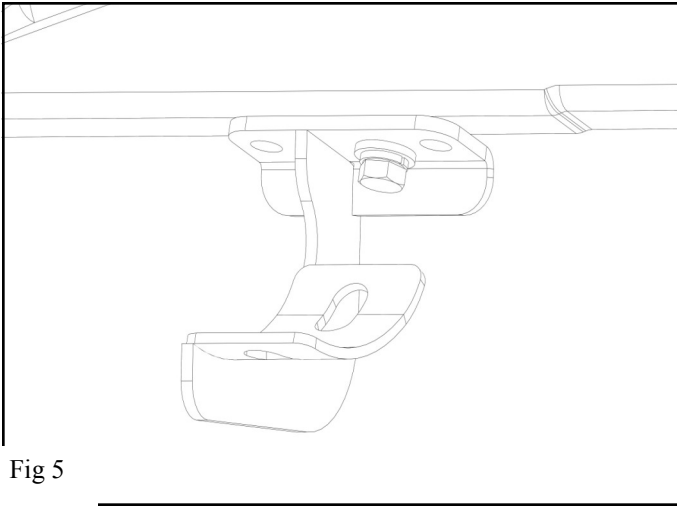

Fig 5
- Move to the passenger side and locate the factory hole in the pinch weld, align the center mounting point of the lower front passenger side mounting bracket with this hole (FIG. 4). Mark the outer two holes on the lower bracket on the pinch weld and drill two 3/8" holes in the pinch weld (FIG. 5). Take the upper front passenger side mounting bracket, and the lower front passenger side mounting bracket and attach them to the pinch weld using (3) M8 hex head bolts, (3) M8 lock washers, and (3) M8 flat washers (FIG. 6). Repeat this step for the next mounting bracket.
2. Move to the passenger side and locate the factory hole in the pinch weld, align the center mounting point of the lower front passenger side mounting bracket with this hole (FIG. 4). Mark the outer two holes on the lower bracket on the pinch weld and drill two 3/8" holes in the pinch weld (FIG. 5). Take the upper front passenger side mounting bracket, and the lower front passenger side mounting bracket and attach them to the pinch weld using (3) M8 hex head bolts, (3) M8 lock washers, and (3) M8 flat washers (FIG. 6). Repeat this step for the next mounting bracket.